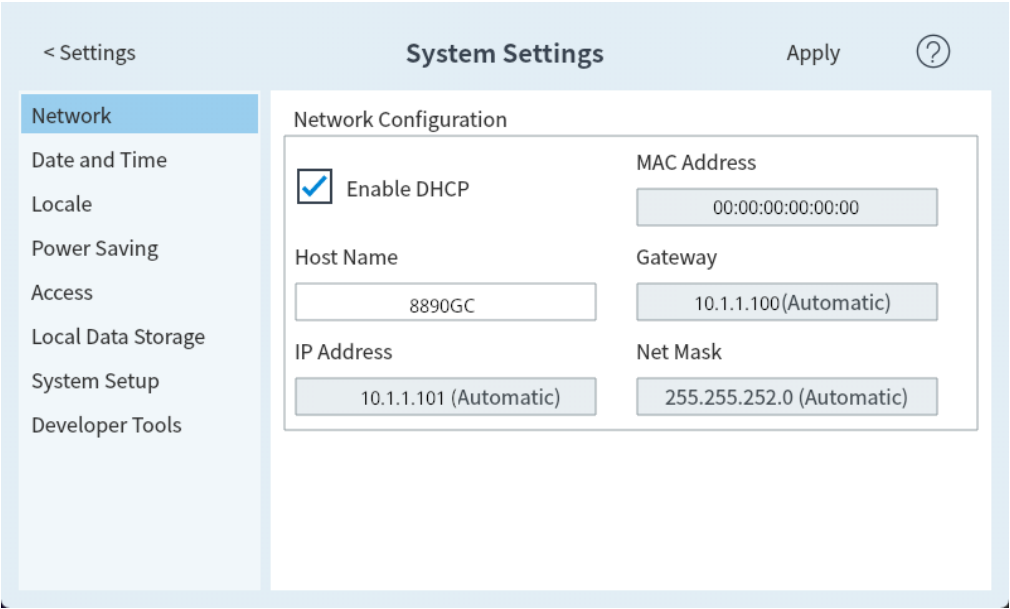

Figure 52. System Settings page
1. Select the desired component type. The Service Mode page for the selected component appears. See Figure 52.